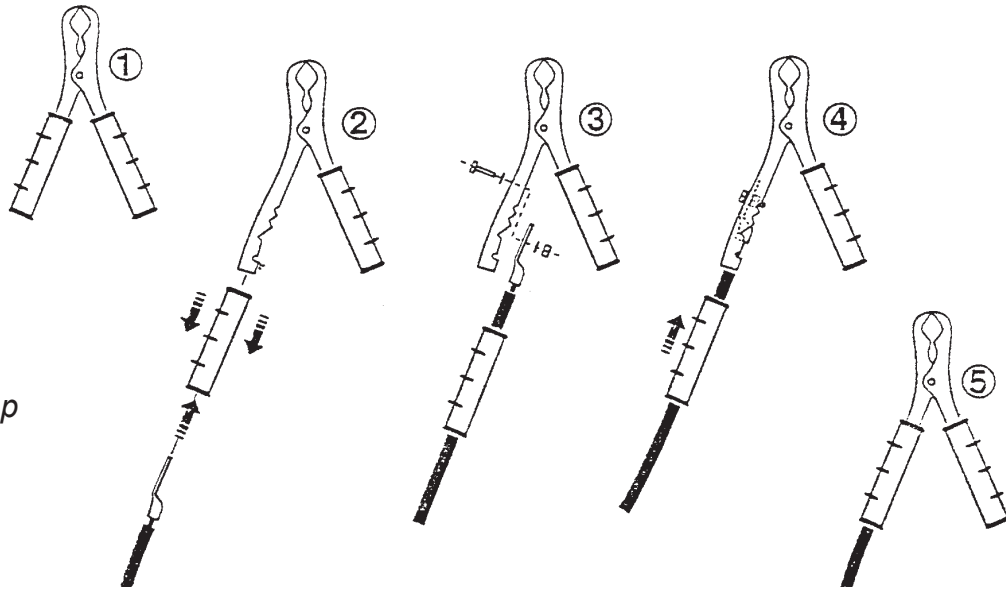

Figure 2.
1. Locate the Ground Clamp which is included in your welder kit, see Figure 2, step 1.
2. Slide the Handle Grip off the Ground Clamp, exposing the Wire Attachment area . Slide the Handle Grip over the end of the GROUND WIRE (4), see Figure 2, Step 2.
3. Attach the GROUND WIRE (4) to the Ground Clamp, using a Bolt, Nut and Washer, as shown in Figure 2, Step 3.
5. Your assembled Ground Clamp will look like Figure 2, Step 5.